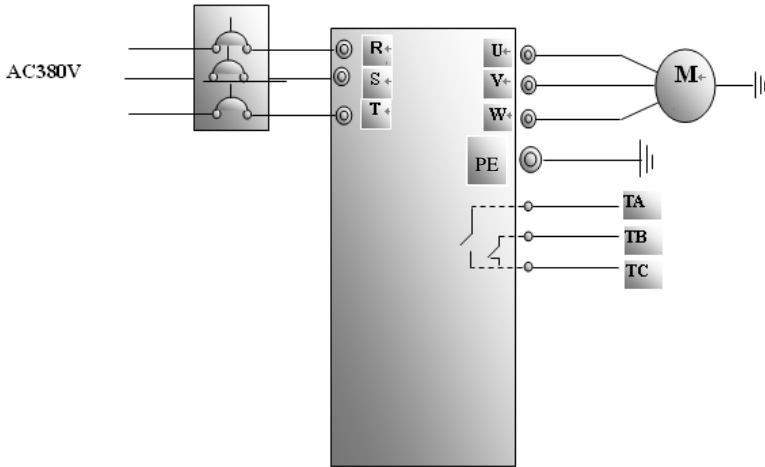

Figure 4-1 Wiring Diagram 1
- (1) Connect the wires in accordance with Figure 4-1. After having checked the wiring successfully, switch on the air switch, and power on the inverter.
- (1) Connect the wires in accordance with Figure 4-1. After having checked the wiring successfully, switch on the air switch, and power on the inverter;
- (2) Press the “Mode” key, to enter the programming menu.
(3) Measure the parameters of the motor; the operation process is the same as that of example 1.
(4) Set functional parameters of the inverter: